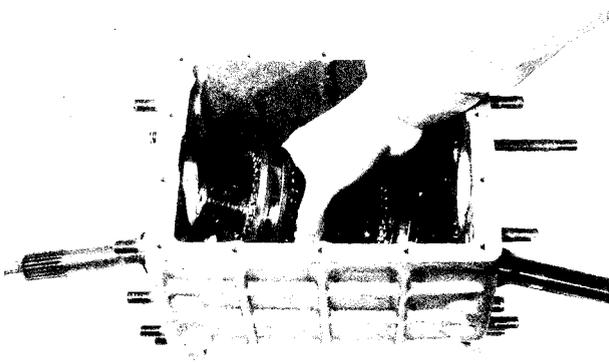

Fig. 7-7 Removing main shaft and gear assembly
30. Take out the main shaft and gears assembly from the case, as shown in Fig. 7-7.